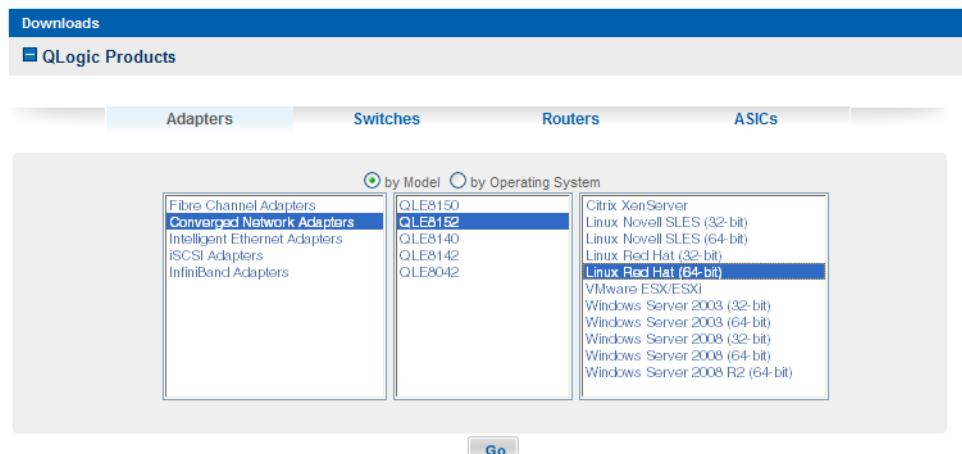

Figure 4-7. Select an Adapter and Linux Operating System
6. In the third column, click the version of the Linux operating system that is installed on the server, and then click **Go**. For example, in **Figure 4-7, Linux Red Hat (64-bit)** is selected for a QLE8152 adapter.